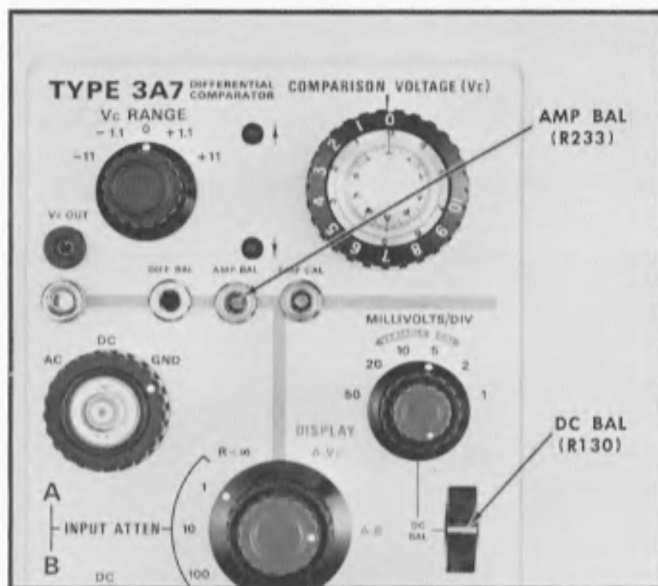

Fig. 5-8. Steps 3 and 4 adjustment locations.
b. Adjust the DC BAL control (see Fig 5-8) so there is minimum trace shift as the VARIABLE (MILLIVOLTS/DIV) control is rotated back and forth.
4. Adjust AMP BAL R233 ①
- Adjust the AMP BAL control R233 (see Fig. 5-8) so the position of the trace matches the position noted in step 4a. To check on the accuracy of the adjustment, set the MILLIVOLTS/DIV switch to its various positions. There should be no trace shift.